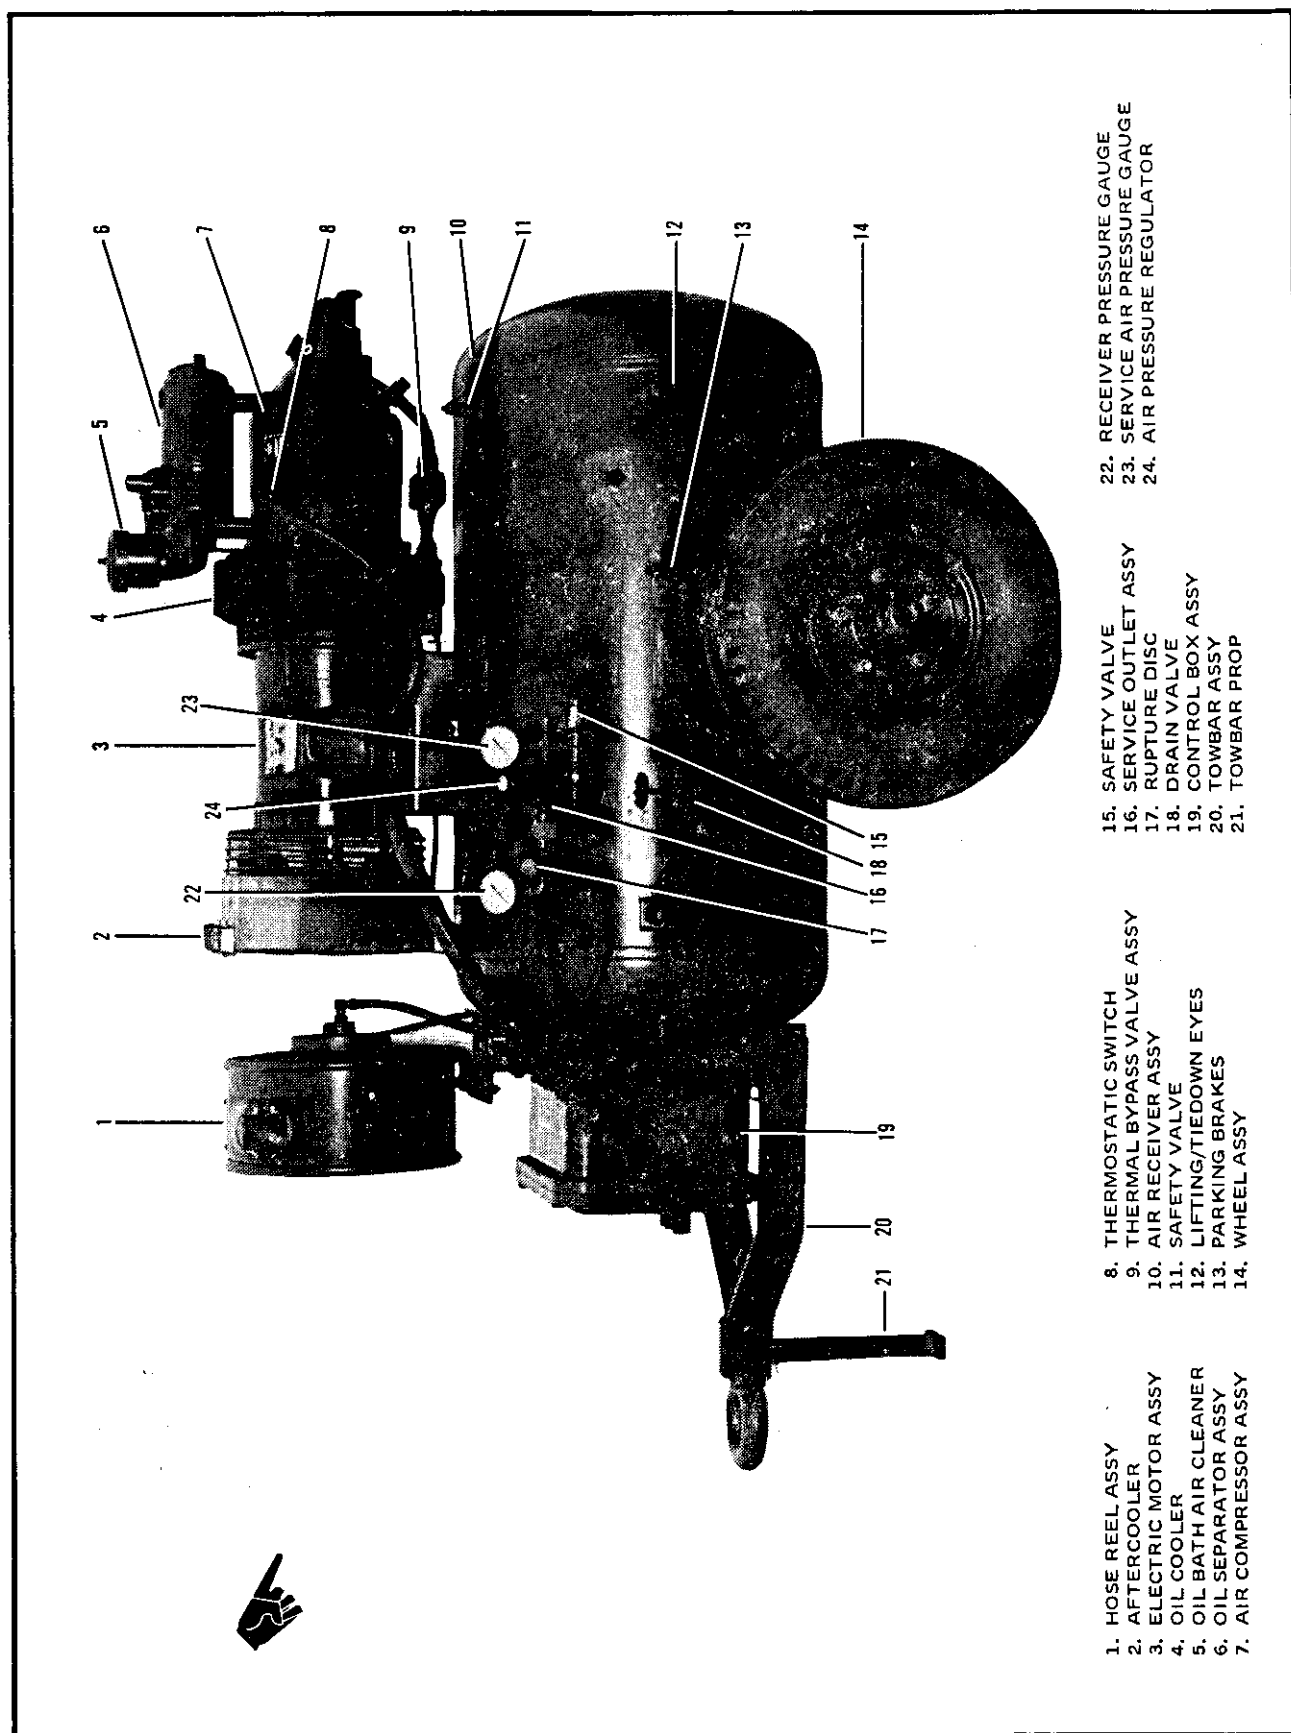

Figure 1-2. Major Components of the Type MB-2A Air Compressor
1-3. GENERAL INFORMATION. The Type MB-2A air compressor is a two-stage, sliding vane, rotary motion type. The compressor is direct driven by a 230/460-volt, 3-phase, 4-wire, 60-hertz electric motor. The compressor capability is 15 cubic feet per minute (cfm) at pressure of 200 pounds per square inch (psi), continuous operation. A Table of Leading Particulars is found in Table 1-1. The equipment is a two-wheel portable type allowing for easy movement from one work area to another. The unit is designed for use in the operation of small pneumatic tools, greasing equipment, paint spray equipment, and the like, which require air pressures up to 200 psi. Main features of the equipment are described below and referenced on figure 1-2.
a. Hose Reel Assembly (1, Figure 1-2). An enclosed type hose reel with a universal hose guide is provided. Hose capacity of the reel is 50-feet of 1/2-inch outside diameter air hose. The reel incorporates a spring latch mechanism that allows the operator to stop hose unwind at any position. With a pull of the hose, the hose will rewind. The spring tension of the reel is adjustable to the desired rewind tension.
b. Aftercooler (2, Figure 1-2). The compressed air passes from the compressor oil separator assembly discharge through the aftercooler, where the heat of compression is reduced prior to the air entering the receiver. The cooling is accomplished by a suction type fan mounted directly on the drive motor shaft. The fan also provides cooling air for the motor.
c. Electric Motor (3, Figure 1-2). The prime mover for the unit is a 6.5 horsepower, 230/460-volt, 1800 revolutions per minute, 3-phase, 4-wire, 60-hertz, dripproof, alternating current, electric motor. The electric motor is used to drive the air compressor assembly through a direct-connected coupling assembly. The drive portion of the coupling is mounted on the motor shaft and incorporates the impeller, which produces the cooling air circulation for the compressor oil and the compressor assembly.
d. Compressor Oil Cooler (4, Figure 1-2). The air compressor oil passes from the oil chamber through the finned oil cooler, where it is cooled by air being forced through and over the fins. The impeller, mounted on the motor shaft, draws air over the oil chamber fins, through the oil chamber support, and expels the air through the oil cooler.
e. Oil Separator Assembly (6, Figure 1-2). The oil separator assembly is mounted on top of the air compressor assembly. The oil separator filters all traces of oil from the compressed air. The assembly contains a bleeder valve and minimum pressure valve assembly in the top part of the oil separator assembly. The bleeder valve returns the oil from the separator to the compressor assembly via the intake. The oil separator incorporates a pressure gauge which indicates the amount of any existing air pressure (in psi) within the rotary compressor assembly. A sight glass in the bleeder valve assembly shows any presence of pressure in the rotary compressor assembly by a percolating action of the oil when compressor is operating at full load.
f. Rotary Air Compressor Assembly (7, Figure 1-2). The rotary air compressor assembly is a two-stage, sliding vane, rotary motion type. It is capable of producing 15 cfm at 200 psi, continuous operation.
g. Thermostatic Switch (8, Figure 1-2). (Unit serial numbers 13DY2MS-22250 thru 13DY2MS-28325 only.) The thermostatic switch is a normally closed, high temperature safety shutdown device. The switch is set to open at temperature of 235° to 245°F. If the temperature within the air compressor oil chamber should reach this range, the switch will open and interrupt the motor circuit, stopping the unit. No manual reset is required, only allowing the unit to cool to temperature below 235°F.
h. Thermal Bypass Valve Assembly (9, Figure 1-2). The thermal bypass valve assembly is employed to direct part of or all the air compressor oil through the oil cooler. The valve is set to start opening at approximately 150°F and is fully open at 185°F. As the valve begins to open, warm and cool oil is mixed to maintain a relatively constant minimum operating temperature. When the valve is fully open, all oil is being passed through the cooler.
i. Air Receiver Assembly (10, Figure 1-2). The air receiver assembly is the reservoir for the compressed air. It has a capacity of 80 cubic feet. The air receiver assembly is also the unit chassis onto which all other components are mounted, including the towbar (20) and two-wheel running gear (14) with hand operated parking brakes (13). The air receiver is equipped with a safety valve (11) set to open at a pressure of 240 psi. Lifting/tiedown eyes (12) are welded to the air receiver, two each side. A drain valve (18) is also provided to relieve receiver pressure.
j. Service Outlet Assembly (16, Figure 1-2). Two service pressure gauges (22, 23) are connected to the service outlet assembly (16). Each has a pressure range of 0 to 300 psi in 5 psi increments and are red-banded 250 to 300 psi. The gauge on the left-hand side (22), facing the service outlet assembly, indicates the air pressure in the air receiver assembly. The gauge on the right-hand side (23) indicates the air pressure setting of the pressure regulator (24) and service air being delivered to the air service hose in the hose reel (1). The service outlet assembly is protected from overpressure by a rupture disc (17) type safety valve and the service hose by a safety valve (15) set at 240 psi. A shutoff valve is provided upstream to the air pressure regulator. The air pressure regulator is adjustable in the range of 5 to 250 psi for the control of service air discharge pressure.
k. Parking Brake Assembly (13, Figure 1-2). The two hand-operated parking brake assemblies (left-hand shown, right-hand on opposite side) are the cam actuated type. When the handle is raised, the cam action forces the lining pad against the wheel rim and locks in place. To release, simply push handle down. The pressure of the lining pad against the rim is adjustable by means of an adjusting screw. The two brake assemblies are attached directly to the air receiver assembly axle stud shafts.
1. Control Box Assembly (19, Figure 1-2). The motor control components are enclosed in an explosion-proof box. The control box assembly consists of a starter assembly, control transformer, hand-off-auto selector switch, start button, emergency stop button, pressure switch, and an automatic phase reversal relay. The electrical control unit is completely automatic and protects the motor assembly from overload. If an overload condition should exist, the electrical control unit will automatically stop the motor. The air compressor is also equipped with a normally closed thermoswitch to protect the unit if the compressor should overheat. If the compressor should overheat, the switch will open the motor circuit and the motor will stop. A pressure switch inside the control box senses the pressure within the air receiver tank via tubing assembly connection. The switch is normally closed and set to open at 210-215 psi. If an overpressure should occur, with unit operating in automatic mode, the pressure switch will open and interrupt the motor circuit. Reset is automatic after receiver pressure has been relieved to 190-195 psi. Operating in the hand mode, the pressure switch does not interrupt the motor circuit.